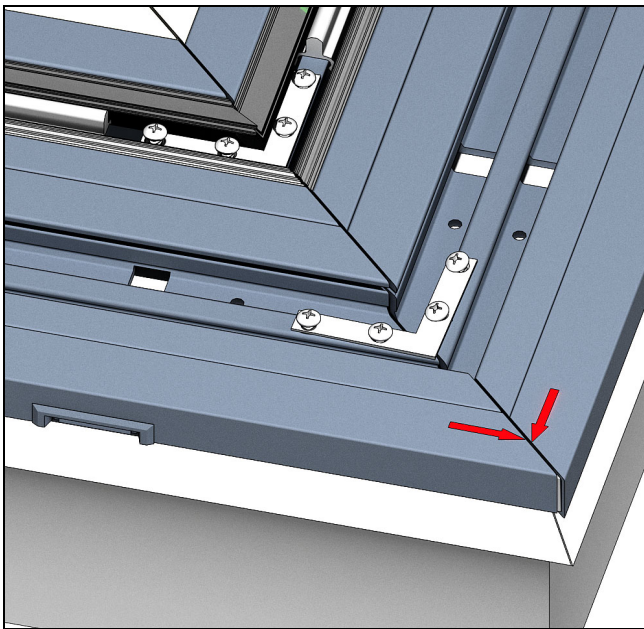

Figure 14
16. Place the sill "L" bracket into each mitered sill track. Fasten using a #8 x 3/8" pan head screw into each hole. See Figure 14.